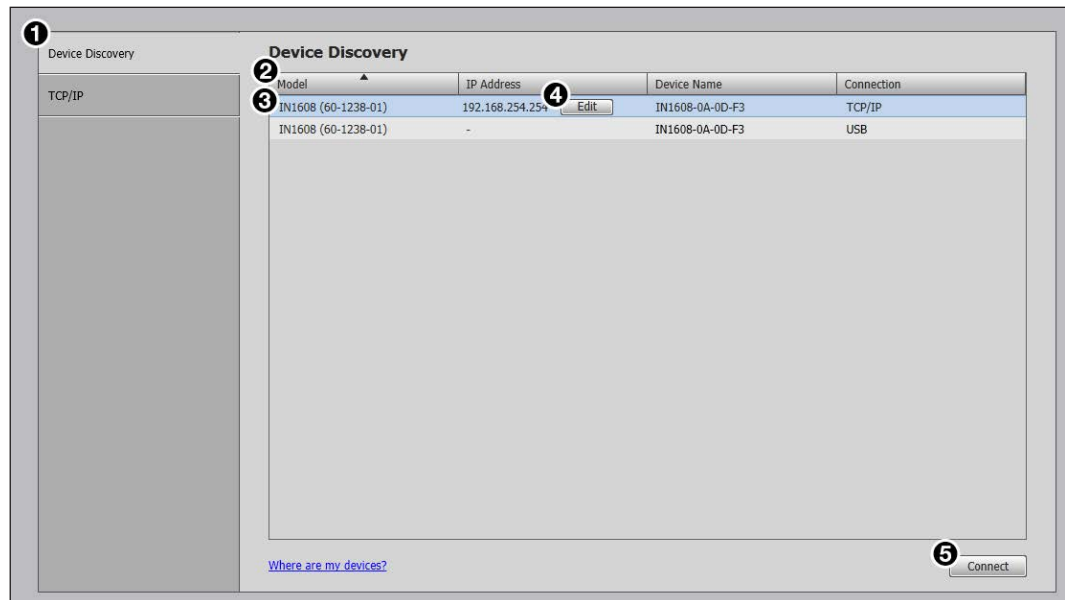

Figure 35. Device Discovery Panel
1. Click the **Device Discovery** tab (see figure 35, ❶).
2. Click the desired column heading (❷) to sort the category in ascending or descending order.